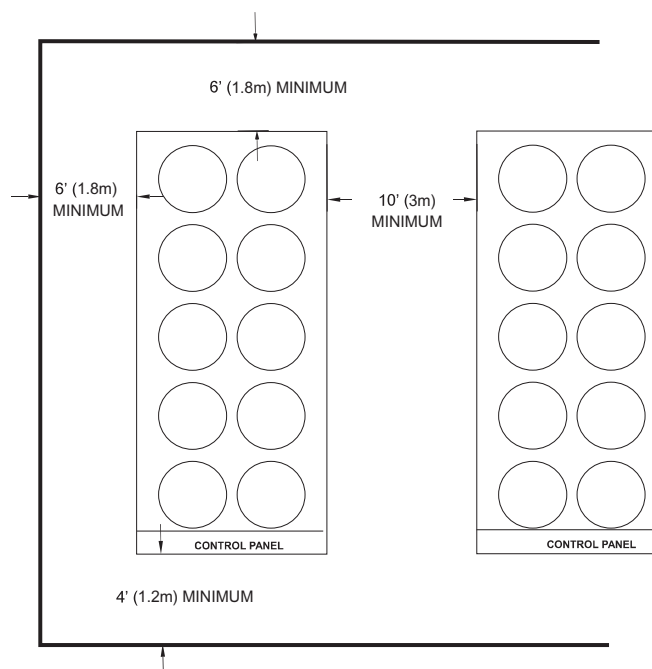

FIGURE 8 - ACCEPTABLE MINIMUM CLEARANCES AROUND/BETWEEN UNIT(S) FOR PROPER AIRFLOW
The YVAA chillers are designed for outdoor installation. To achieve optimum performance and trouble-free service provide adequate space around chillers (see Figure 8). When selecting chiller installation sites, follow these requirements:
- B. Provide space for air to flow into condensers per dimensions shown on the dimension drawing on pgs 20 and 21. Restricted airflow or hot air recirculation will diminish performance. Johnson Controls' unit controls will optimize the operation without nuisance high pressure safety cutouts; however, the system designer **MUST** consider potential performance degradation. Recommended clearances (See Fig. 8) for all units are as follows: